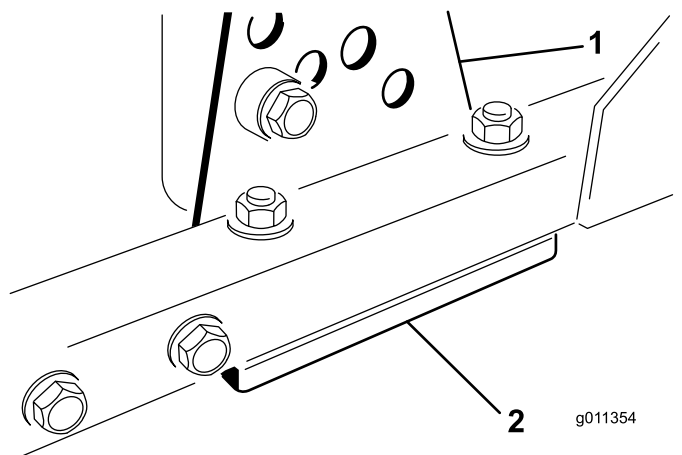

Figure 13
1. Remove the height-of-cut bracket, (front, left, or right) from the deck frame (Figure 13).
2. Adjust 0.060 inch (1.5 mm) shims and/or 0.030 inch (0.7 mm) shim between the deck frame and bracket to achieve the desired height setting (Figure 13).